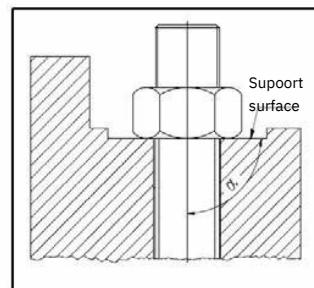

Figure 4: Angle accuracy
4.1.6. Check the angle α of the bolt on the support surface and correct if necessary. (Figure 4) 4.1.7. Before using the bolt tensioner, apply grease to the bolt threads. The grease type is user-defined. (Figure 5)